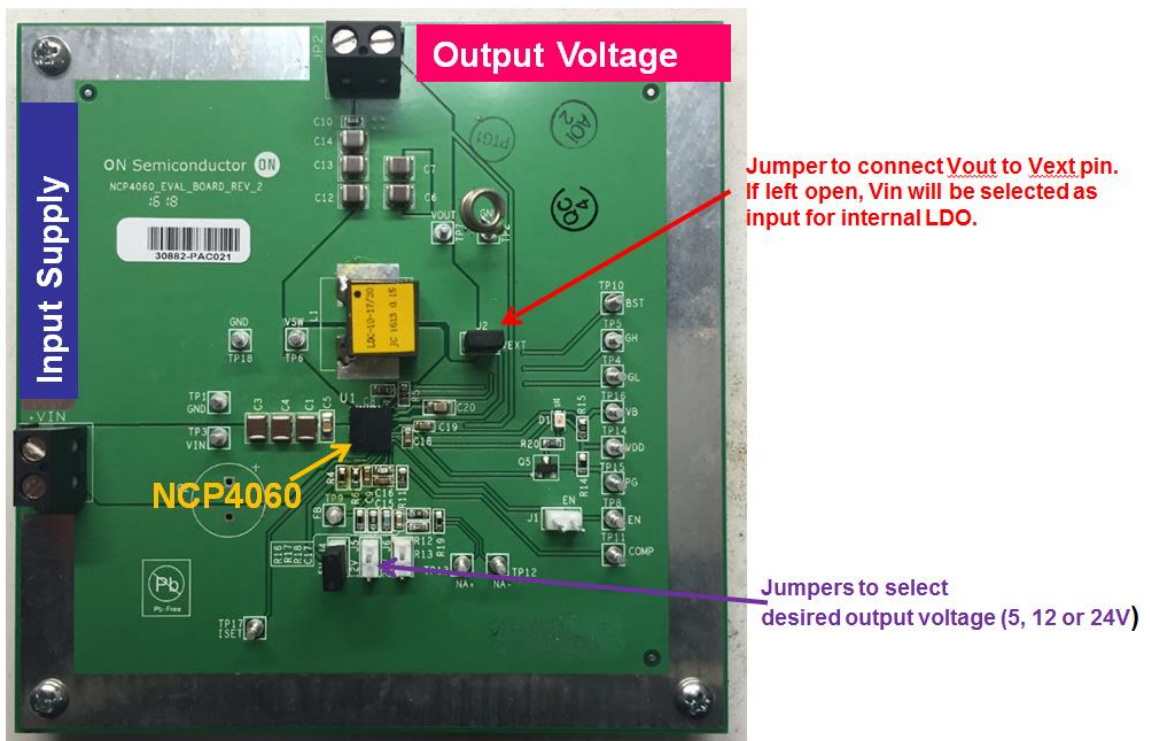

Figure 2: VEXT Jumper and VOUT Jumpers
5.  $V_{out}$  can be set to 5, 12 and 24V (See Figure2) in this setup  $V_{out} = 5V$
**Note:** VCC and VIN are connected together on the EVB. (See Application Schematic) There are three jumpers to select the desired output voltage. The output voltage can be set to 5,12 or 24V (See figure 2)